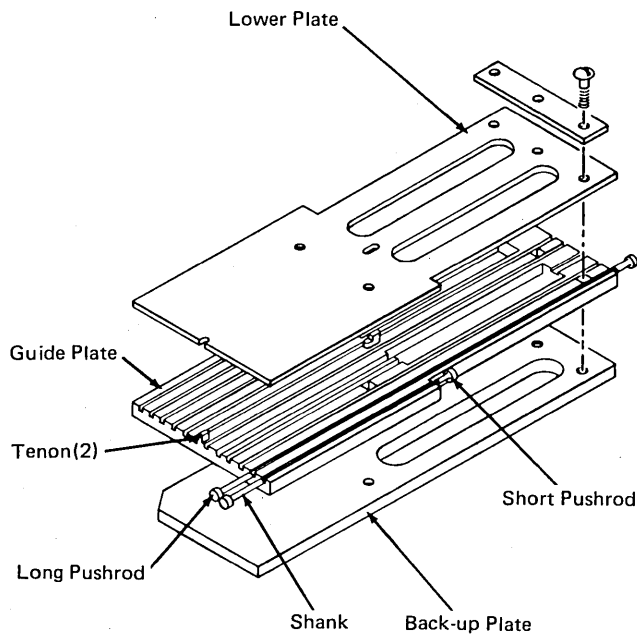

Figure 4-31. Pushrod Assembly (Inverted)
5. Remove the mounting screws from the top of the appropriate pushrod assembly (Figure 4-31) and slide the assembly out the rear in a straight line. Be careful to avoid losing pushrods out of their slots, and avoid damaging the locating tenons on the bottom of the guides.
2. Place the pushrod in position and put the guides and backup plate together, making sure all holes line up. Make certain to install the backup plate with its cut corner oriented as shown in Figure 4-31. This places the close tolerance flat side against the pushrod guide plate.